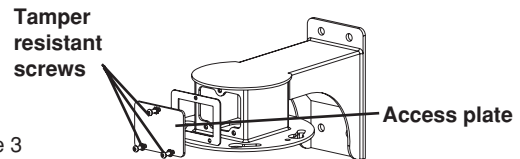

Figure 3
4. After the wall mount is securely attached to the wall, remove the (3) 10-32 tamper resistant screws with the provided security tool (Figure 3) and take off the access plate.